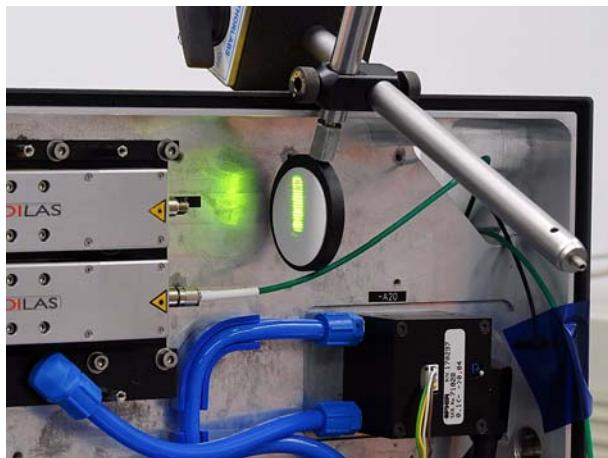

Figure 5.24 Checking the diode module
2. Using suitable means, fix the transducer disk to the output of the diode module (Figure 5.24).